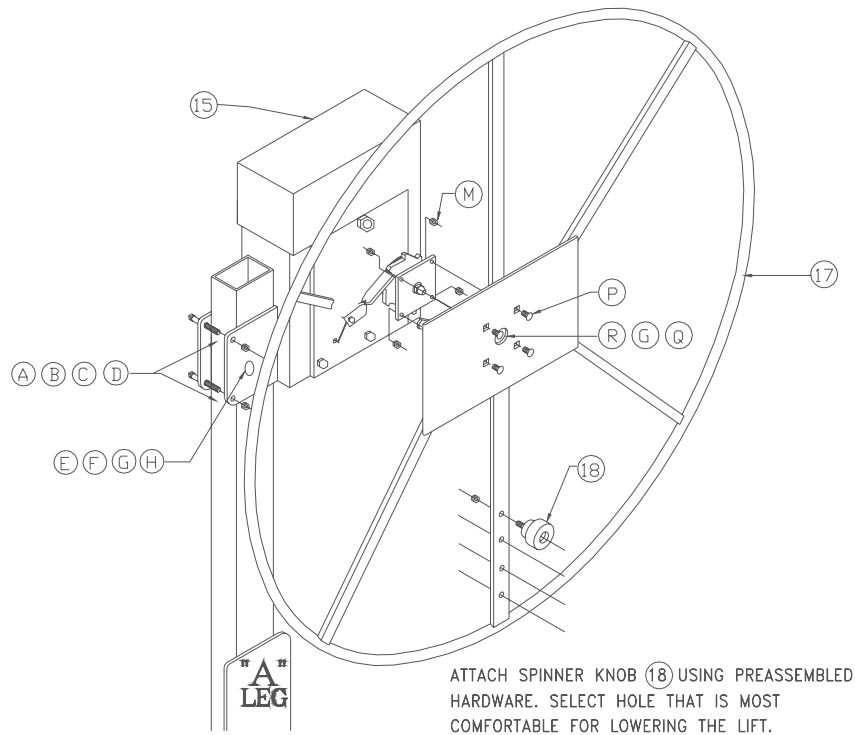

Figure 3-9
- Refer to Figure 3-9. Clamp winch to vertical leg “A”. Mount the winch such that any optional canopy cover will not interfere with removing and replacing the winch cover.